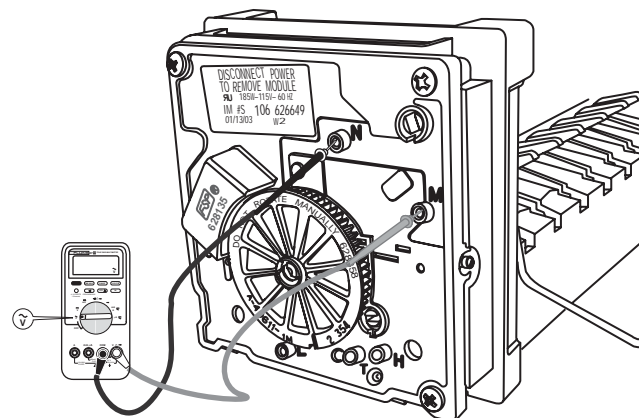

Figure 58. Checking voltage to motor
3. Set multimeter to ac scale, then connect probes to test point N and M. See Figure 58. Test probe tips must be 1/2 inch long to make full contact with internal terminals. Voltage at the motor should measure 108 to 132 Vac.